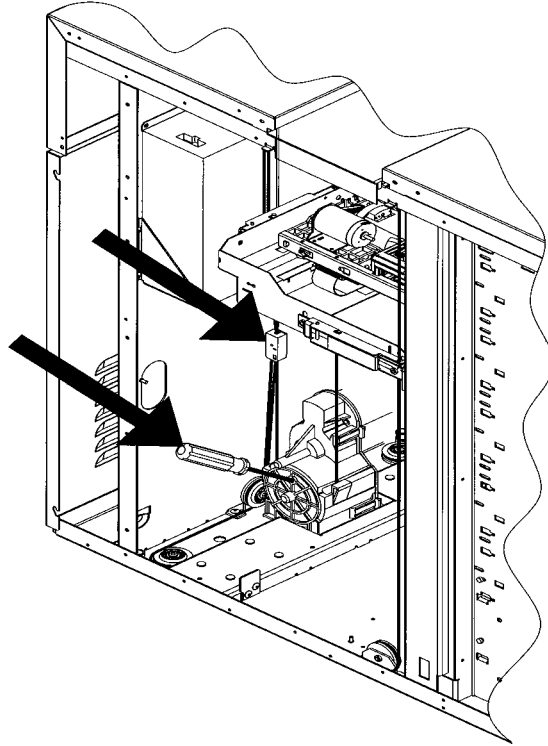

Figure 63: Holding the Translate Frame in Position
5. Raise the translate frame and picker up to a convenient working height so that you can access the underside of the picker (see #1 on Figure 63).